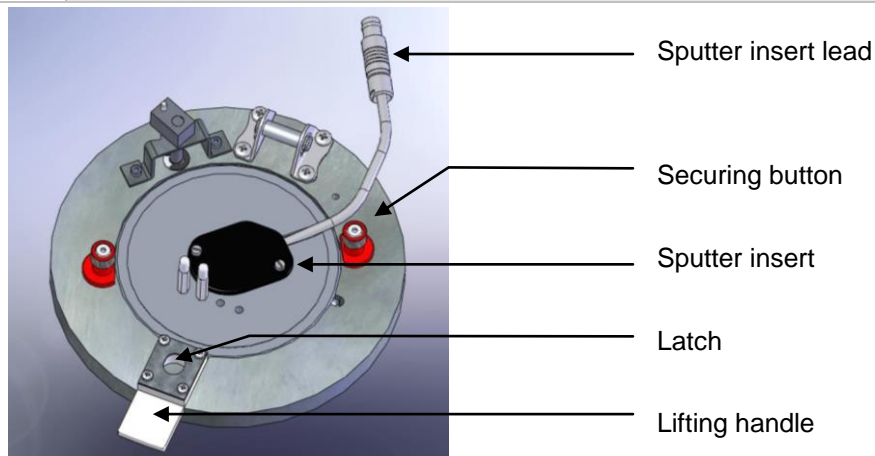

Figure 7-1. Top view of the sputter insert
4. Turn the two securing buttons to release the installed insert and remove the insert (see **Figure 7-1**).